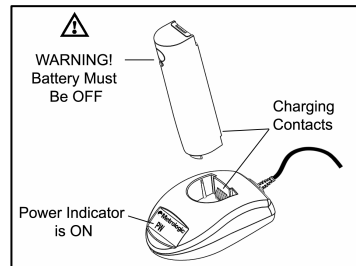

Figure 5
4. Insert the battery pack into the charger as shown in *Figure 5*.